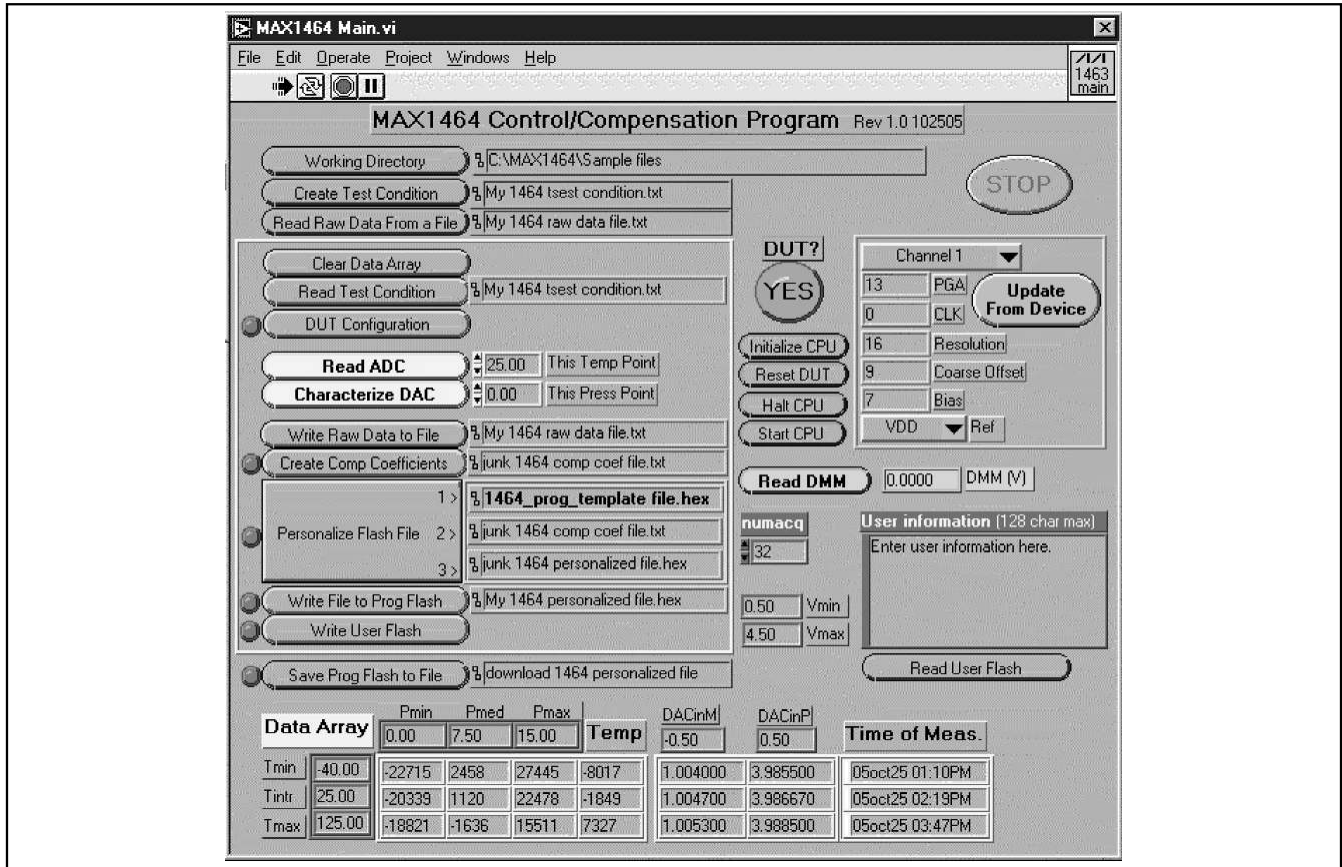

Figure 2. Control Software Window
- 2) A window (Figure 2) appears on the monitor.